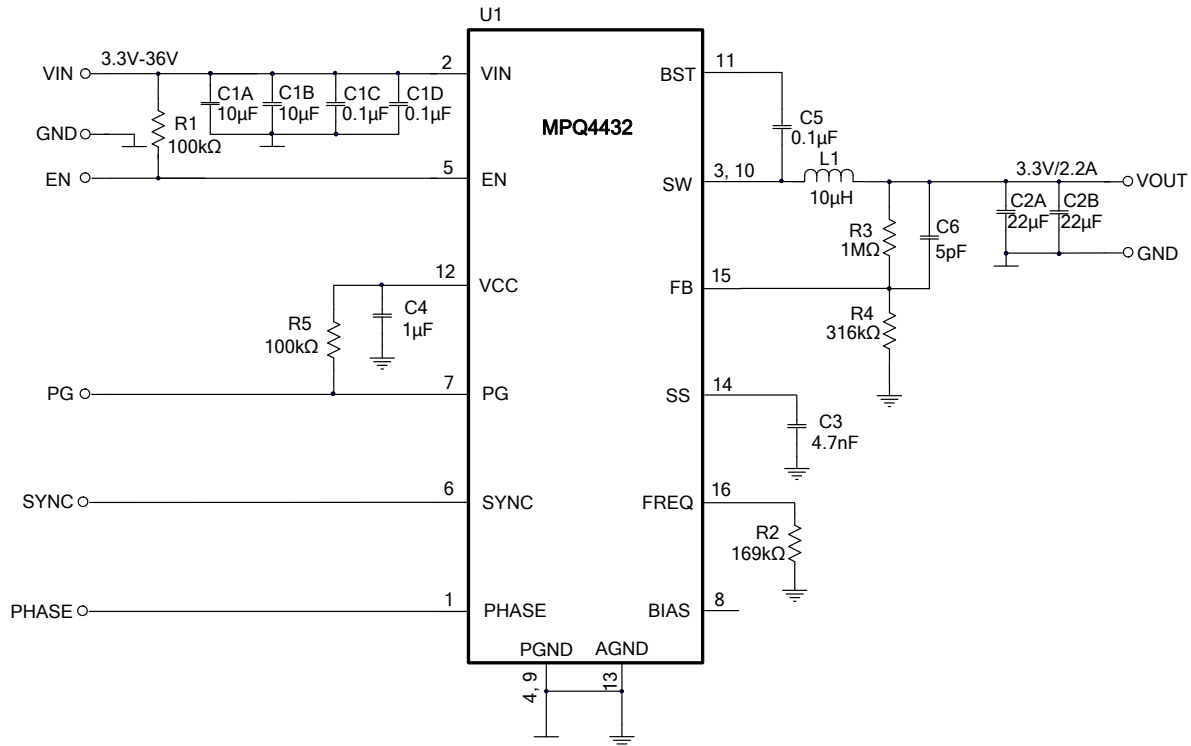

Figure 9: $V_{OUT} = 3.3V$, $f_{sw} = 500kHz$
- 8) The recommended PCB layout is based on Figure 9.